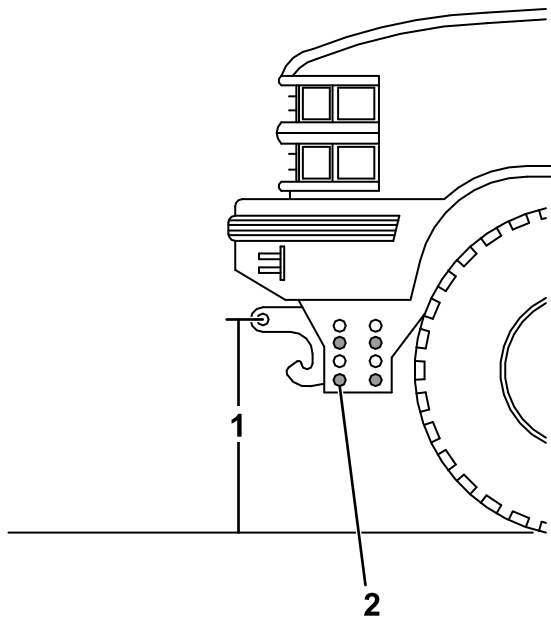

Figure 27
1. Measure the distance from the ground to the coupler spring-pin holes on the undercarriage pushbeam (Figure 27). If you have a standard- or super-duty plow, the distance should be 39.3 cm (15-1/2 inches). If you have a heavy-duty plow, the distance should be 41.9 cm (16-1/2 inches).
2. If the pushbeam is not at the correct height, remove the fasteners securing the pushbeam to the undercarriage (Figure 27).